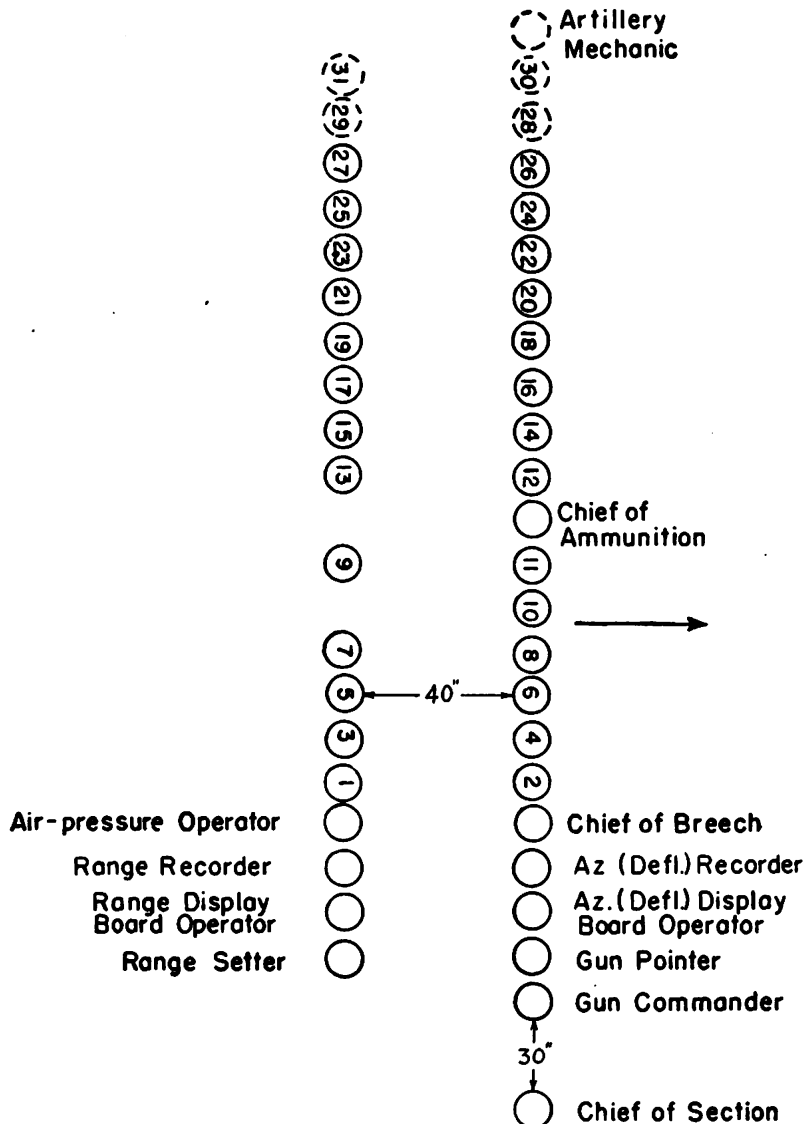

FIGURE 16.—Formation of gun section for 16-inch gun and howitzer.
21. Notes on drill.—*Q.* What is the formation for the gun section of the 16-inch gun and howitzer? *A.* See figure 16.